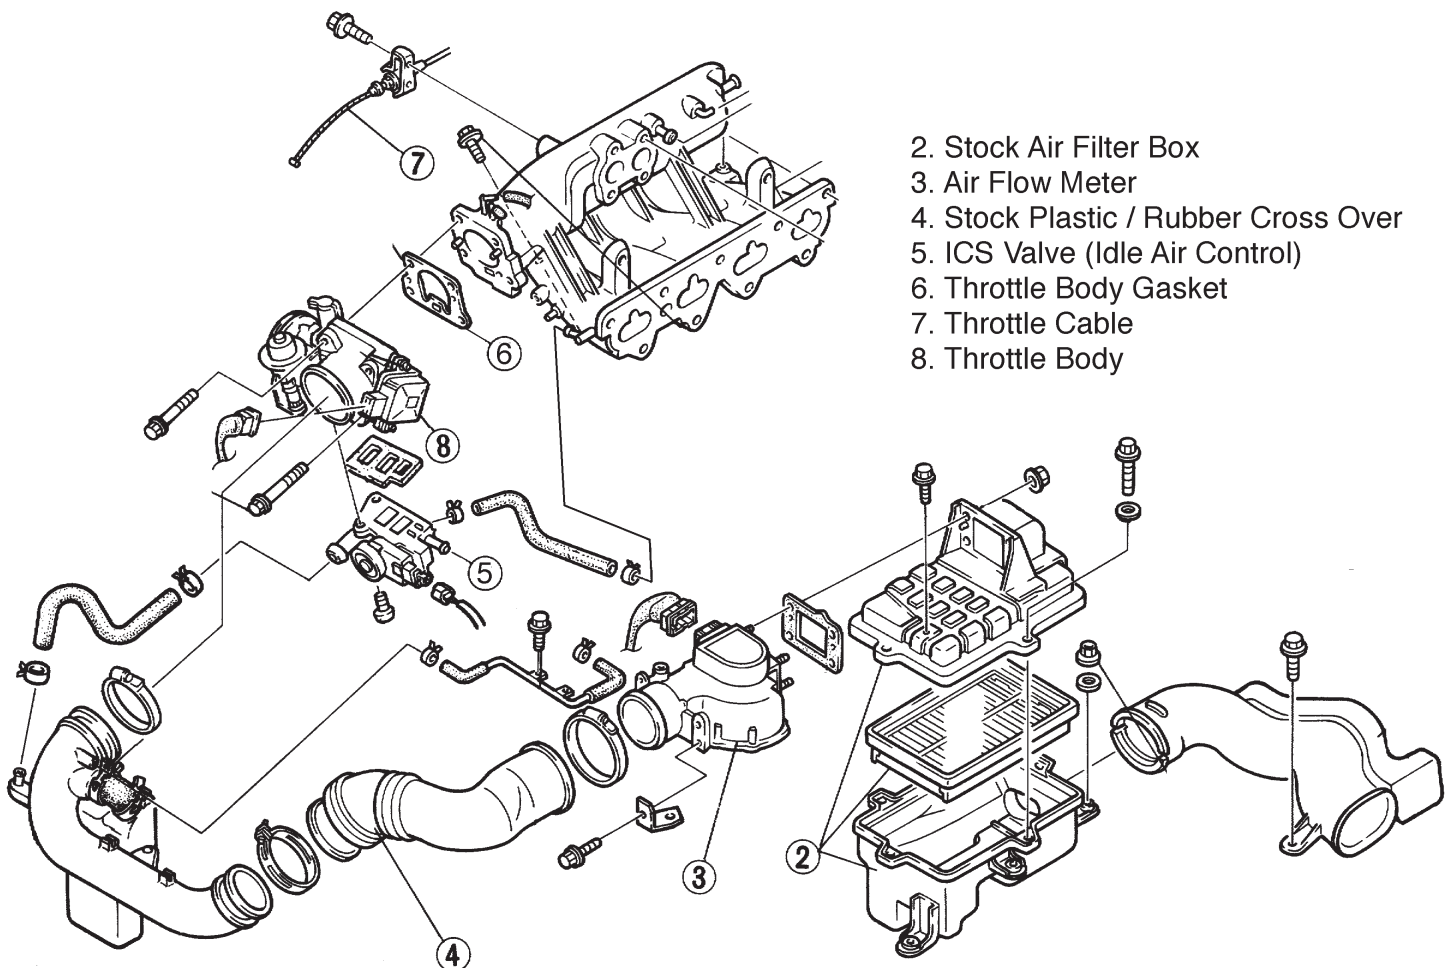

FIGURE 1.4
1.4 Remove the chrome crankcase vent pipe that is attached to the front of the cam cover and the rubber hose that leads into the cam cover (Figure 1.4). These can be stored away.
2.1 Remove the throttle body (FIGURE 1.4) by releasing the two electrical connectors (one has a spring wire, one has a plastic lever clip), the two small coolant hoses on either side of the lower Idle Control System (ICS) valve, and the four bolts.